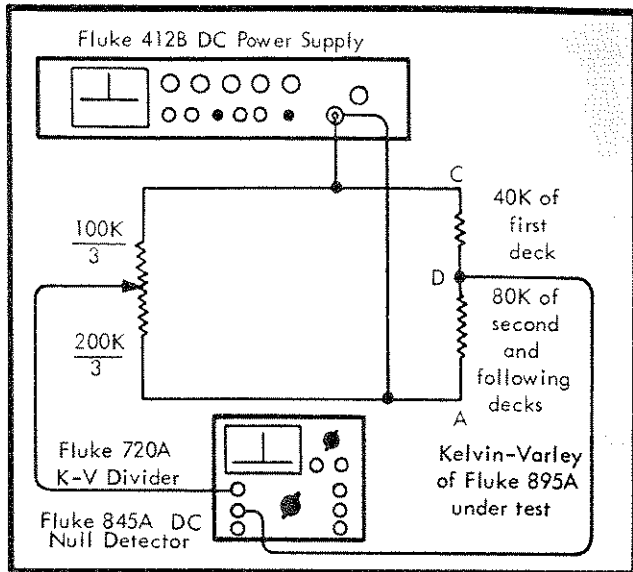

Figure 4-8. KELVIN-VARLEY CALIBRATION CIRCUIT
- e. Connect the equipment as shown in Figure 4-8. Points A, C, & D are identified on the Kelvin-Varley board.